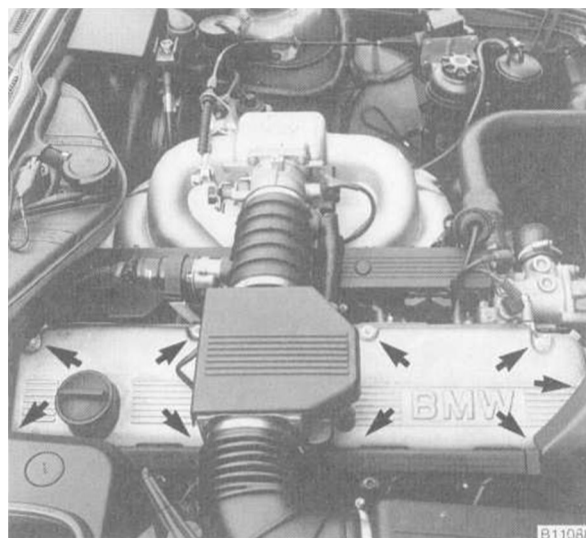

Fig. 6. Cylinder head cover fasteners (arrows)
4. Disconnect the breather hose from the cylinder head cover. Remove the nuts and bolts shown in Fig. 6. Lift off the cylinder head cover and its gasket.